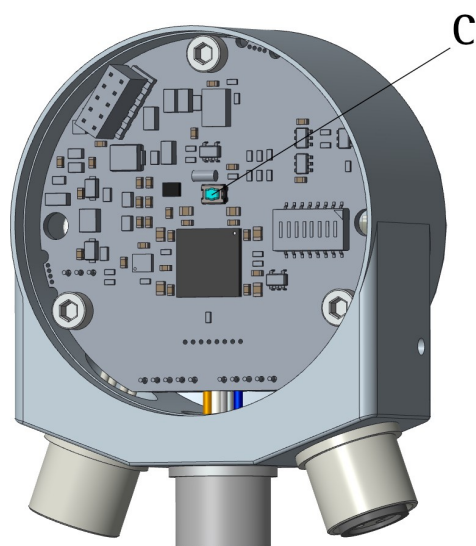

Figure 7 - Tactile switch
4.12 Tactile switch (Figure 7)